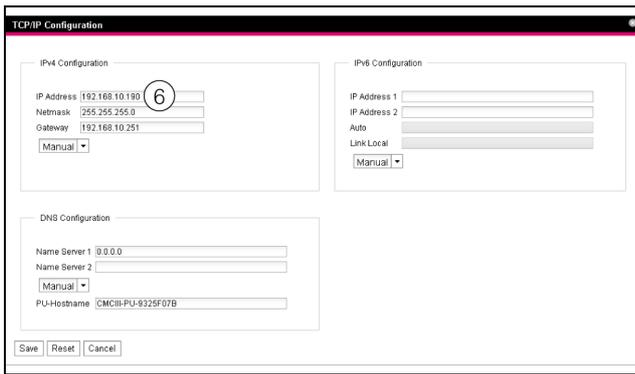

Fig. 91: Adjusting the TCP/IP settings
- In the TCP/IP Configuration window, change the device's IP address in the IPv4 Configuration group box to an address permitted in the network (fig. 91, item 6).